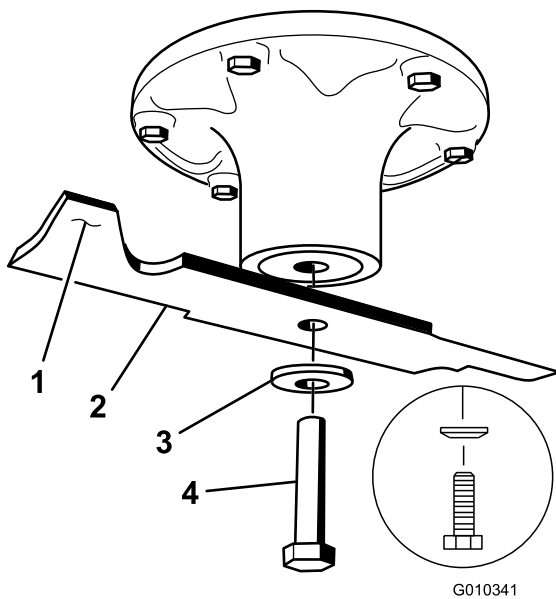
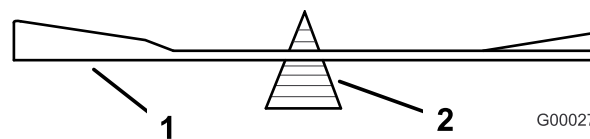

Figure 67
Figure 69
Hold the blade end using a rag or thickly-padded glove. Remove the blade bolt, curved washer, and blade from the spindle shaft (Figure 67).
1. Install the blade onto the spindle shaft (Figure 67).
2. Install the spring disk and blade bolt. The spring disk cone must be installed toward the bolt head (Figure 67). Torque the blade bolt to 135-150 N-m (100-110 ft-lb).
2. Check the balance of the blade by putting it on a blade balancer (Figure 69). If the blade stays in a horizontal position, the blade is balanced and can be used. If the blade is not balanced, file some metal off the end of the sail area only (Figure 67). Repeat this procedure until the blade is balanced.